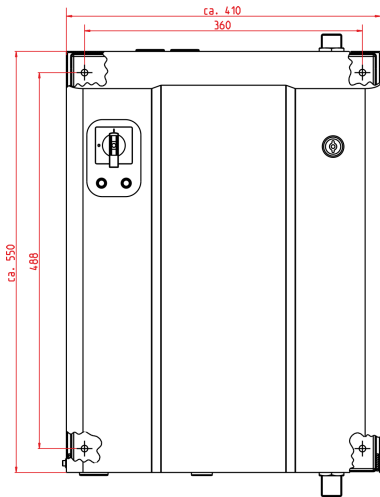

Fig. 1: Wall mounting: Lub-O-Mat Eco
2. → Using a folding rule, Fig. 1 measure the above dimensions for the drill holes.